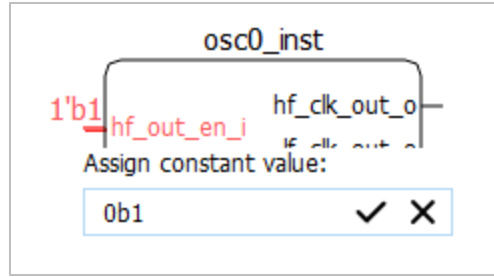

Figure 2.109. Dialog Box of Assigning Constant Value to an Input Pin
2. A small dialog box appears (Figure 2.109). Enter the desired value. To erase the value and start over, click X. For all buses (more than one pin), the format is hexadecimal. Make sure the value fits the number of pins in the bus. For example, a 3-pin bus can accept 0-7, but not 8.